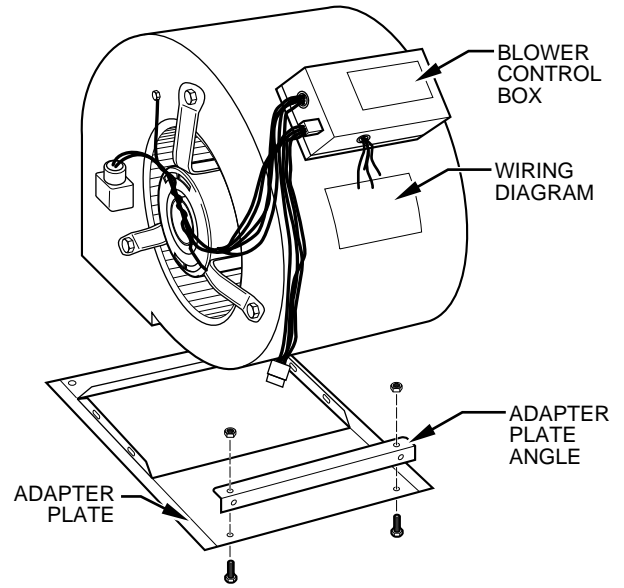

Fig. 16—Attaching KMABA05013TE or KMABA06014TE Blower to 3500/EB Adapter Plate and Adapter Plate Angle
- b. For 3500/EB Furnaces, use adapter plate and adapter plate angle shown in Fig. 16.
5. For 3500/EB Furnaces only, also connect adapter plate angle to adapter plate with 2 bolts and nuts supplied in loose parts bag of kit as shown in Fig. 16.